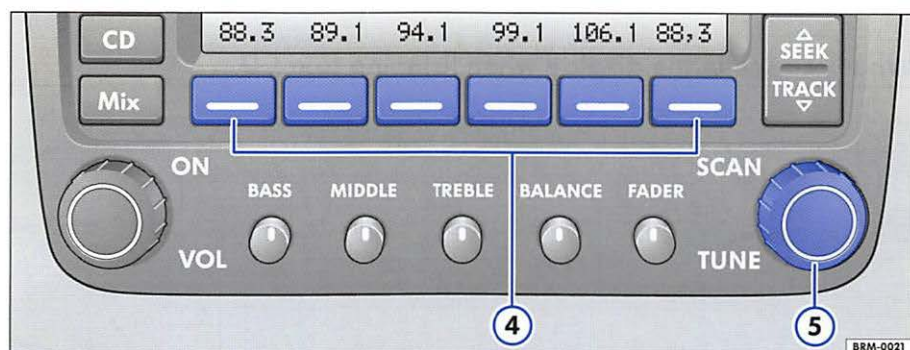

Fig. 18 Selection buttons and SCAN/TUNE button
- You can select each CD in the internal CD changer and the external CD changer* by briefly pressing the selection buttons ⇒ fig. 18 ④.
- Press the **[CD]** button ⑨ for more than 2 seconds, **MIX CD** appears in the display. Press the **[CD]** button again for more than 2 seconds to stop the random play operation.
- Turn the lower part of the display the words **FLDR**, **CD**, **MAG** will appear. By using the station preset buttons ⇒ page 23, fig. 18 ④ below these words select **FLDR**. The random play mode will now occur in a particular folder. **MIX-FOLDER** appears in the display.